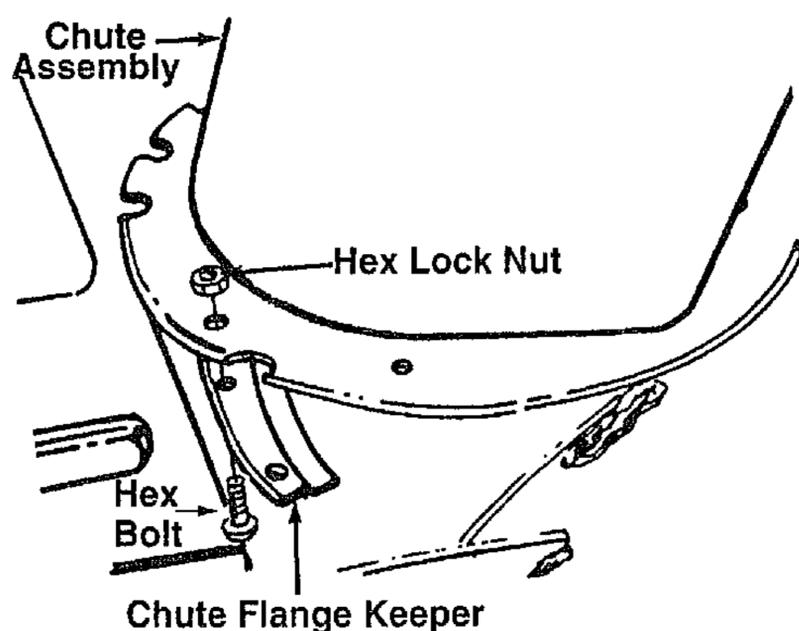

Figure 5
- With the flat side facing downward, place the chute flange keepers beneath the flanges of both the discharge chutes and the chute adapter. Insert the hex cap screws up through the flange keepers and discharge chute flange as shown in Figure 5, and secure with the hex flanged lock nuts. After assembling all three chute flange keepers, tighten all lock nuts until snug, then back off (loosen) approximately 1/4 turn.